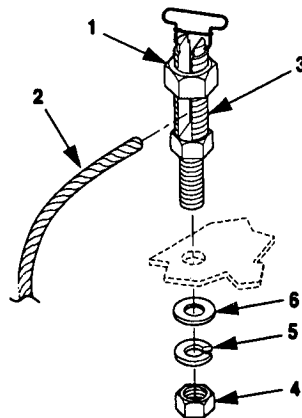

Figure 4-29. PU-801A Ground Stud Replacement.
1. Loosen nut (1, figure 4-29) and remove ground wire (2) from ground stud (3).
2. Remove nut (4), lock washer (5), flat washer (6), and ground stud (3).